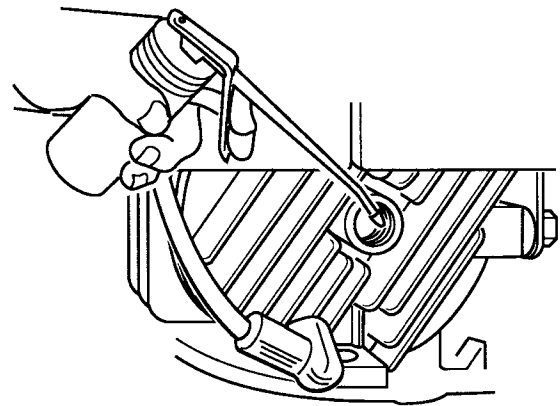

Figure 47
1. Remove spark plug. Using an oil can, squirt about one tablespoon of oil through spark plug hole (Fig. 47).